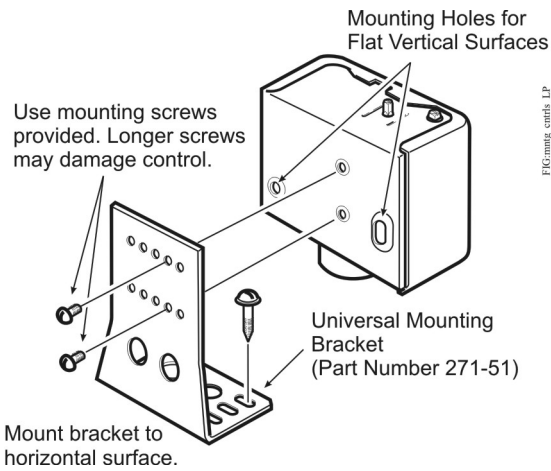

Figure 4: Mounting the P70, P72, and P170 Low Pressure Controls with NEMA 1 Enclosures
- Use two screws or bolts through the two outer holes on the back of the control case when mounting the control directly to a flat vertical surface. See Figure 4.
- Use the two inner holes with the Universal Mounting Bracket (and screws supplied) when mounting the control to a flat horizontal surface. See Figure 4.